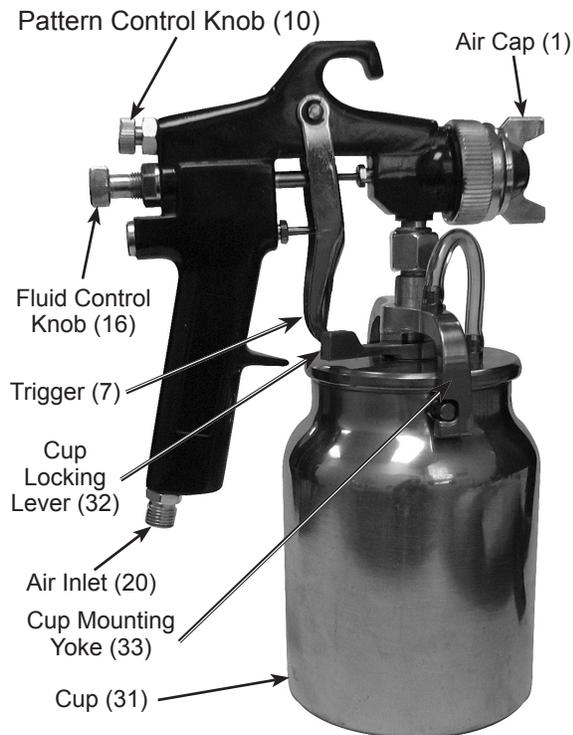

Fig. 1
2. To set the pattern size specific to the job, use the Pattern Control Knob (10) (**see FIG. 1**). By turning it counterclockwise (all the way open), the pattern will flatten. Turn the Pattern Control Knob (10) clockwise for a round pattern. (**See FIG. 4** below.)
1. Turn the Needle Adjusting Screw (16) clockwise until it is fully closed. (**See FIG. 1**.)